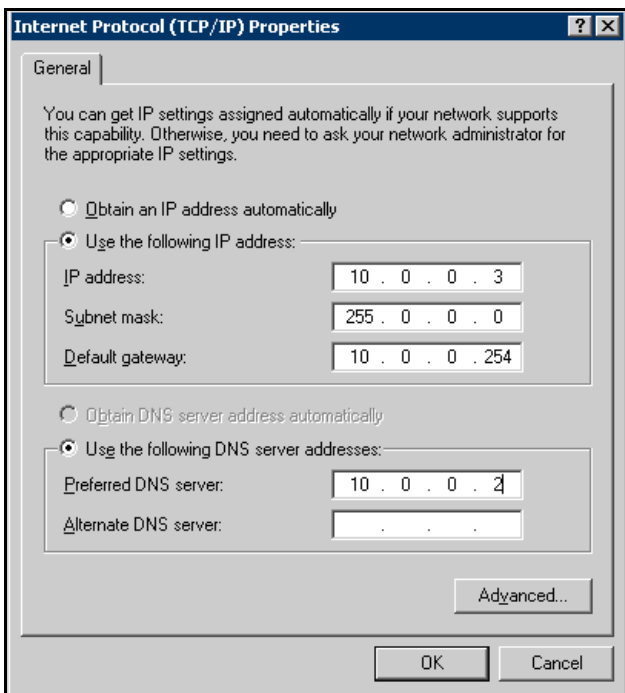

Fig. 6. TCP/IP Settings Page.
3. Double click “Internet Protocol (TCP/IP) to open the TCP/IP Settings. A popup as shown in Figure 6 should appear.